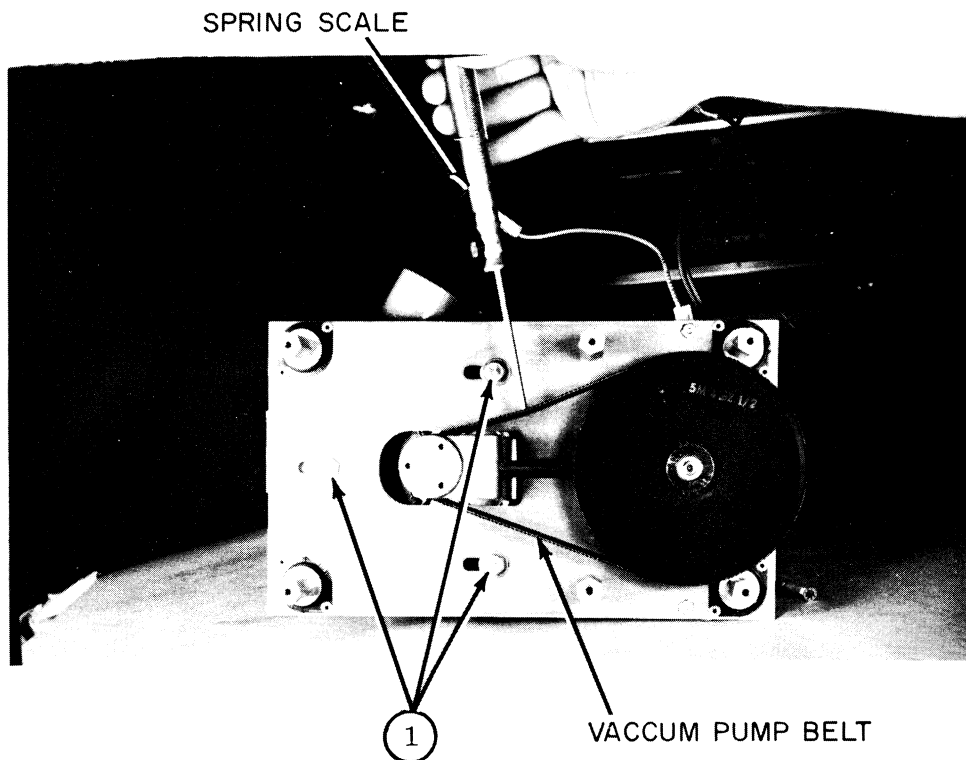

Figure 9-13. Vacuum Pump Belt Adjustment
- e. LOOSEN three hex vacuum pump mounting bolts 1, figure 9-13.